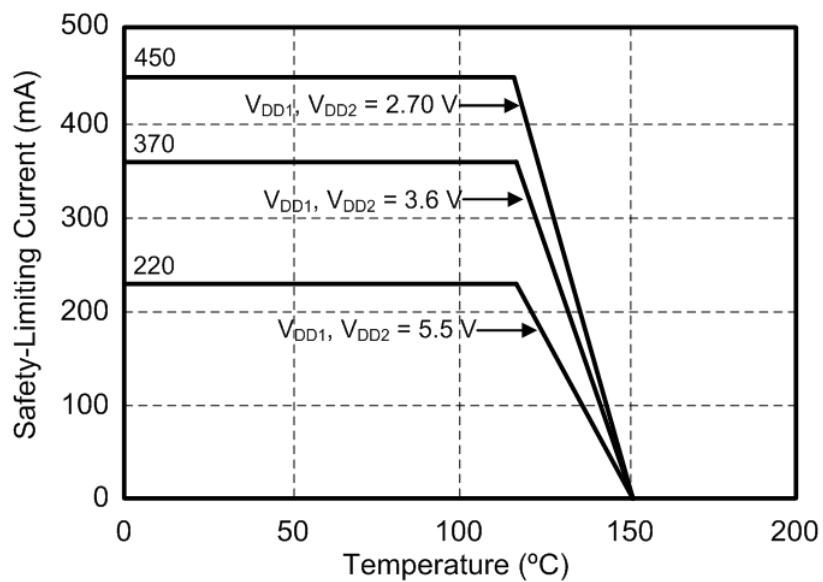
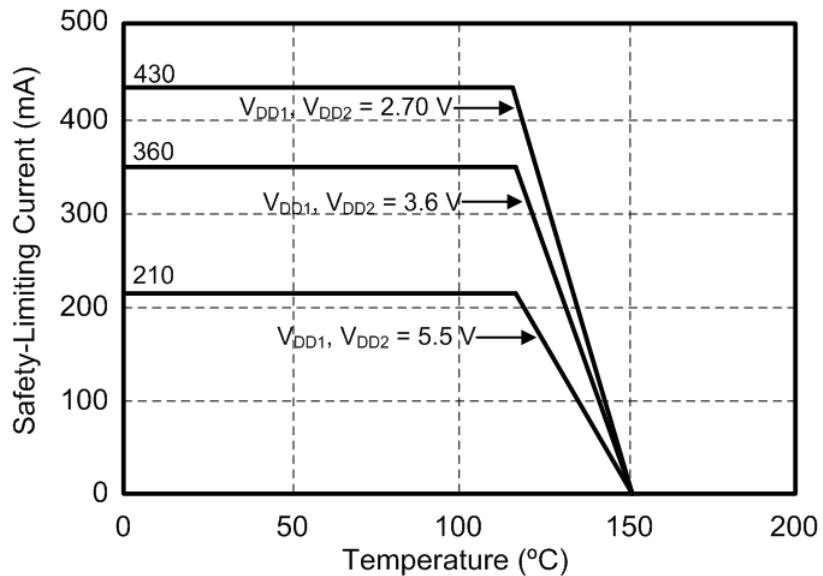

Figure 4.4. (WB SOIC-16) Thermal Derating Curve, Dependence of Safety Limiting Values with Case Temperature per DIN EN 60747-5-5/VDE 0884-10, as Applies
Figure 4.5. (NB SOIC-16) Thermal Derating Curve, Dependence of Safety Limiting Values with Case Temperature per DIN EN 60747-5-5/VDE 0884-10, as Applies
1. Maximum value allowed in the event of a failure; also see the thermal derating curve in Figure 4.4 (WB SOIC-16) Thermal Derating Curve, Dependence of Safety Limiting Values with Case Temperature per DIN EN 60747-5-5/VDE 0884-10, as Applies on page 24 and Figure 4.5 (NB SOIC-16) Thermal Derating Curve, Dependence of Safety Limiting Values with Case Temperature per DIN EN 60747-5-5/VDE 0884-10, as Applies on page 24.